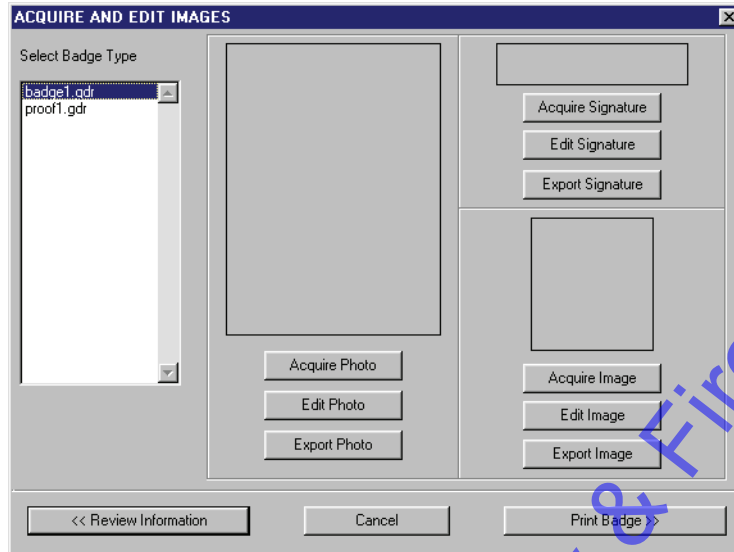

Figure 9-21: Acquire and Edit Images
- Continuing from Step 7 and Figure 9-20 above, click on the  button. The Acquire and Edit Images window appears (see Figure 9-21).
- In the Select Badge Type field, click on the badge template you want to use for this user (Figure 9-21). If the Select Badge Type field is empty, you need to create a badge template in the GuardDraw program (see “Badge Templates” on page 6 of this section).